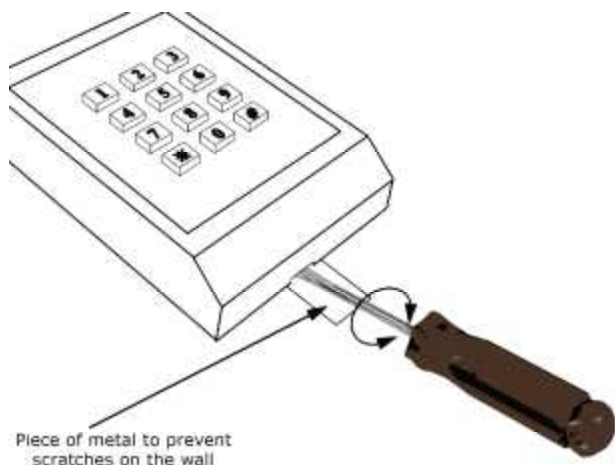

FIGURE 1: SNAPPING OPEN THE COVER
2. Snap open the reader's top cover by inserting a wide screwdriver blade into the slot at the bottom edge of the cover, then twisting the blade gently (see Figure 1). **Do not remove** the keypad from the reader.